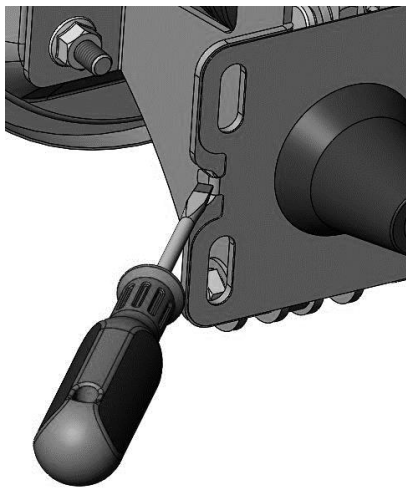
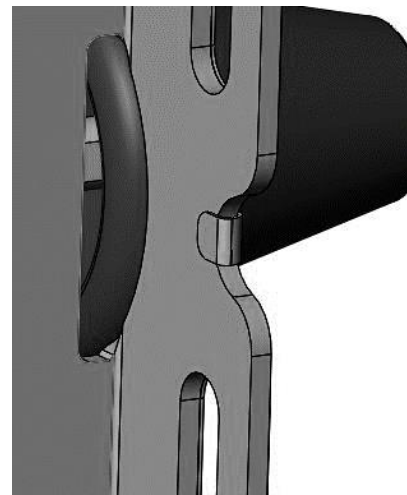

Figure 6a – Folding the Tabs
Figure 6b – Tabs Fully Folded Over
7. Install the pedal push rod boot and plate on the booster mounting bracket. To secure, fold the tabs on the plate onto the brackets as shown in Figure 6a below and fully installed in Figure 6b.